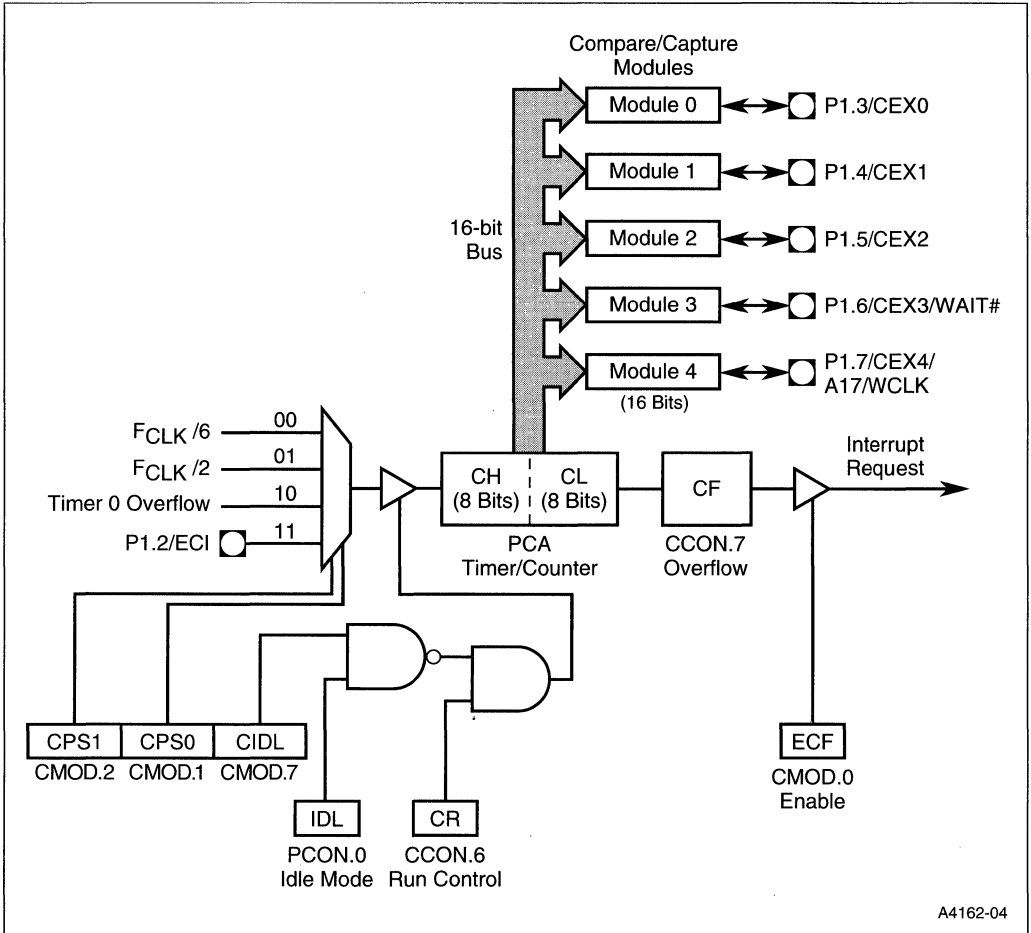
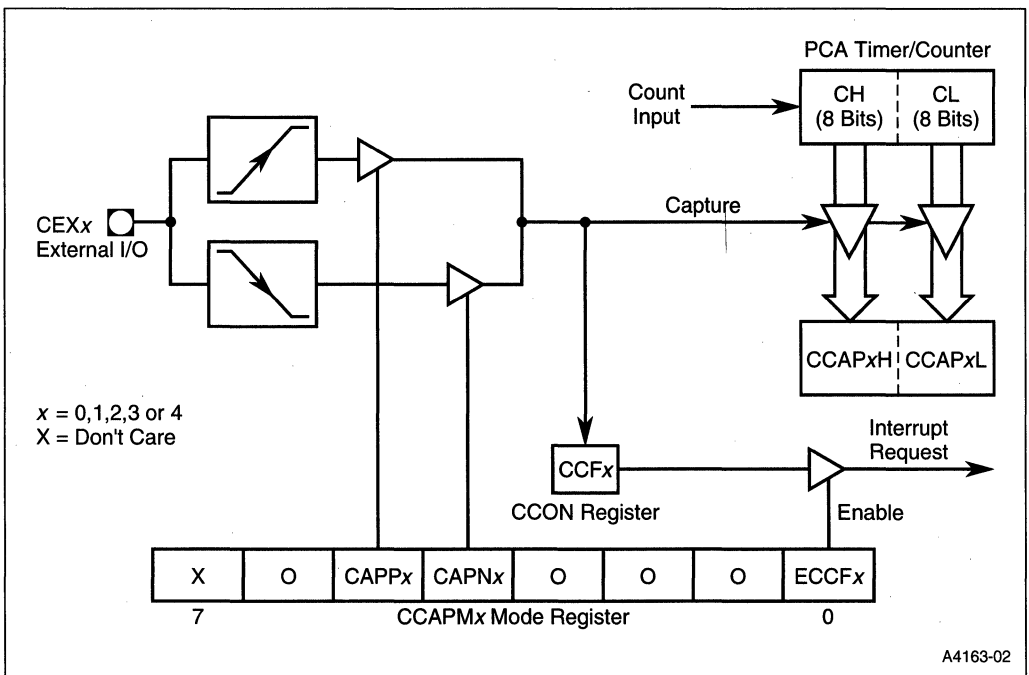

Figure 12-1. Programmable Counter Array†
Figure 12-2. PCA 16-bit Capture Mode
The programmable counter array (PCA) consists of a 16-bit timer/counter and five 16-bit compare/capture modules. The timer/counter serves as a common time base and event counter for the compare/capture modules, distributing the current count to the modules by means of a 16-bit bus. A special function register (SFR) pair, CH/CL, maintains the count in the timer/counter, while five SFR pairs, CCAPxH/CCAPxL, store values for the modules (see Figure 12-1). Additional SFRs provide control and mode select functions as follows:
The PCA timer/counter and the five compare/capture modules share a single interrupt vector. The EC bit in the IEN0 special function register is a global interrupt enable for the PCA. Capture events, compare events in some modes, and PCA timer/counter overflows all set flags in the CCON register. Setting the overflow flag (CF) generates a PCA interrupt request if the PCA timer/counter interrupt enable bit (ECF) in the CMOD register is set (Figure 12-1). Setting a compare/capture flag (CCFx) generates a PCA interrupt request if the ECCFx interrupt enable bit in the corresponding CCAPMx register is set (Figures 12-2 and 12-3). For a description of the 8x930 interrupt system see Chapter 6, "Interrupt System".
Figure 12-1 depicts the basic logic of the timer/counter portion of the PCA. The CH/CL special function register pair operates as a 16-bit timer/counter. The selected input increments the CL (low byte) register. When CL overflows, the CH (high byte) register increments after two oscillator periods; when CH overflows it sets the PCA overflow flag (CF in the CCON register) generating a PCA interrupt request if the ECF bit in the CMOD register is set.
Setting the run control bit (CR in the CCON register) turns the PCA timer/counter on, if the output of the NAND gate (Figure 12-1) equals logic 1. The PCA timer/counter continues to operate during idle mode unless the CIDL bit of the CMOD register is set. The CPU can read the contents of the CH and CL registers at any time. However, writing to them is inhibited while they are counting (i.e., when the CR bit is set).
The logical configuration of a compare/capture module depends on its mode of operation (Figures 12-2 through 12-5). Each module can be independently programmed for operation in any of the following modes:
The capture mode (Figure 12-2) provides the PCA with the ability to measure periods, pulse widths, duty cycles, and phase differences at up to five separate inputs. External I/O pins CEX0 through CEX4 are sampled for signal transitions (positive and/or negative as specified). When a compare/capture module programmed for the capture mode detects the specified transition, it captures the PCA timer/counter value. This records the time at which an external event is detected, with a resolution equal to the timer/counter clock period.